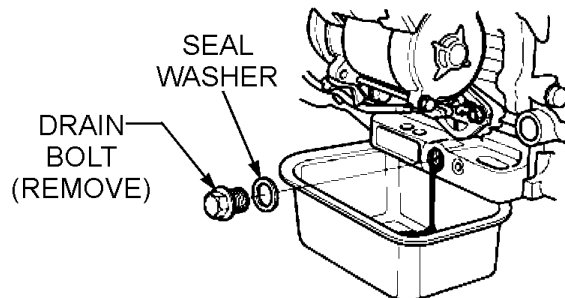

Figure 28. Draining Engine Oil
- Drain the engine oil into a suitable container when the oil is warm as shown in Figure 28.